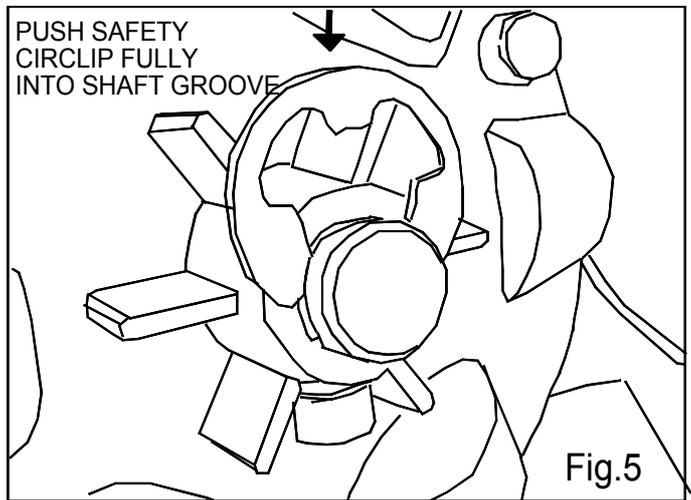

Fig.5
4. Fitting the fan blade assembly onto the main shaft of the generator. Grease fan hub bore then fit the fan assembly onto the generator main shaft aligning the M8 clearance hole in the fan hub boss with the M8 tapped hole in the main shaft. Fit the M8 spring washer under the head of the M8 x 25 Socket Cap Screw. Insert the bolt through the M8 clearance hole in the outer fan hub boss and fully tighten it into the main shaft using the Allen key supplied (best to increase the leverage on the allen key by fitting a tube or something similar to make sure it is fully tightened). See Fig. 4. Push safety circlip into the shaft groove as shown in Fig. 5 then finally push fully into the groove, the black hub cover is then pushed onto the hub boss.